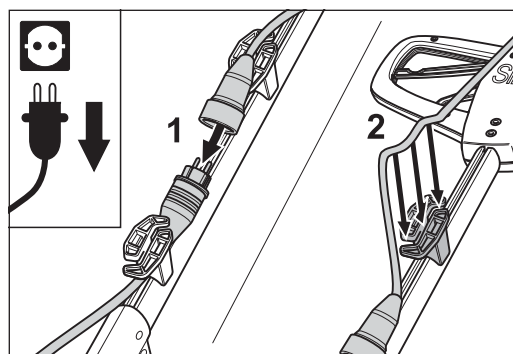

Fig. 8 Insert the extension cable in the upper cable holder on the guide tube.
- 1 Push the socket onto the plug on the motor cable and insert the extension cable in the upper cable holder on the guide tube (Fig. 8).